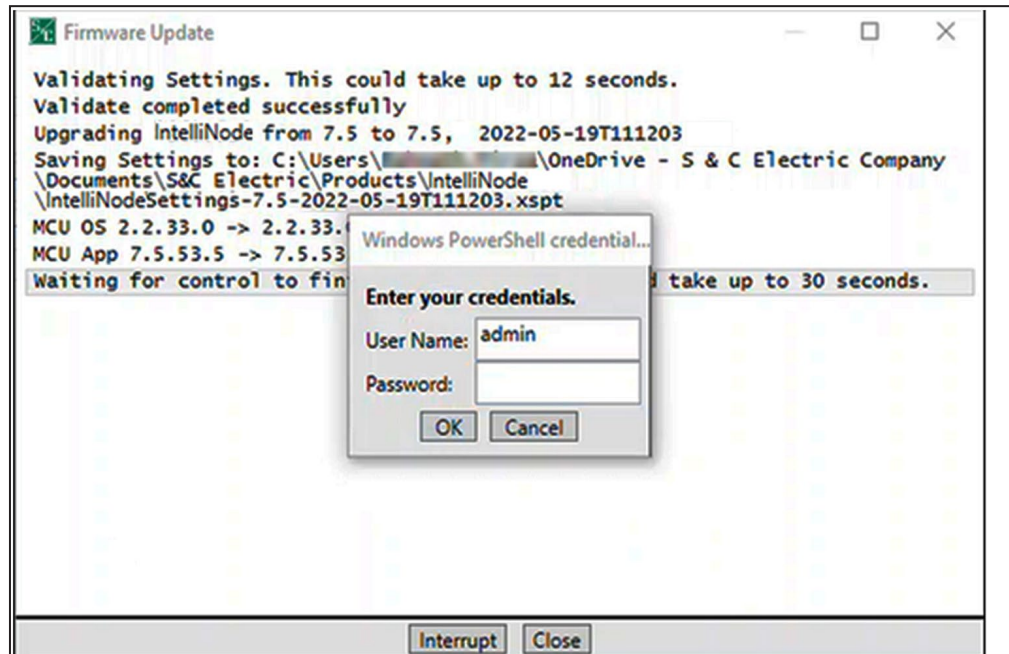

Figure 24. The Windows Powershell Credential dialog box.
STEP 11. If the Windows PowerShell Credential dialog box appears, enter the User Name and Password, and click on the **OK** button. Contact the Global Support and Monitoring Center at (888) 762-1100 if assistance is needed. See Figure 24.